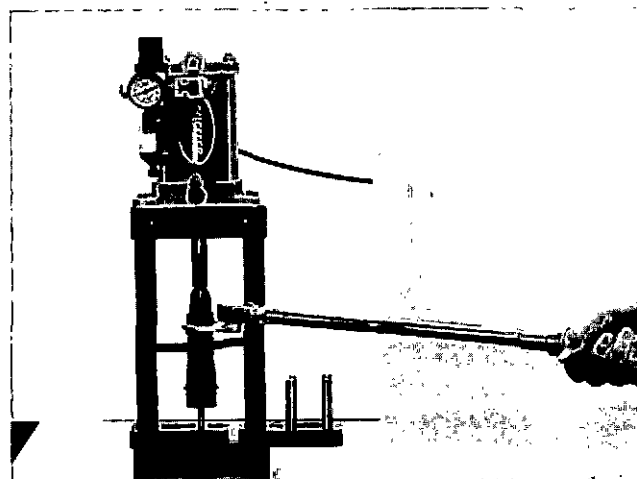

Fig. 2-41, (F60197). Torque the cup retainer-injector in ST-1298
13. Tighten the cup retainer with the ST-1072 Crowsfoot Wrench and ST-995 Retainer Wrench to the torque value listed in Table 2-4, Fig. 2-41.